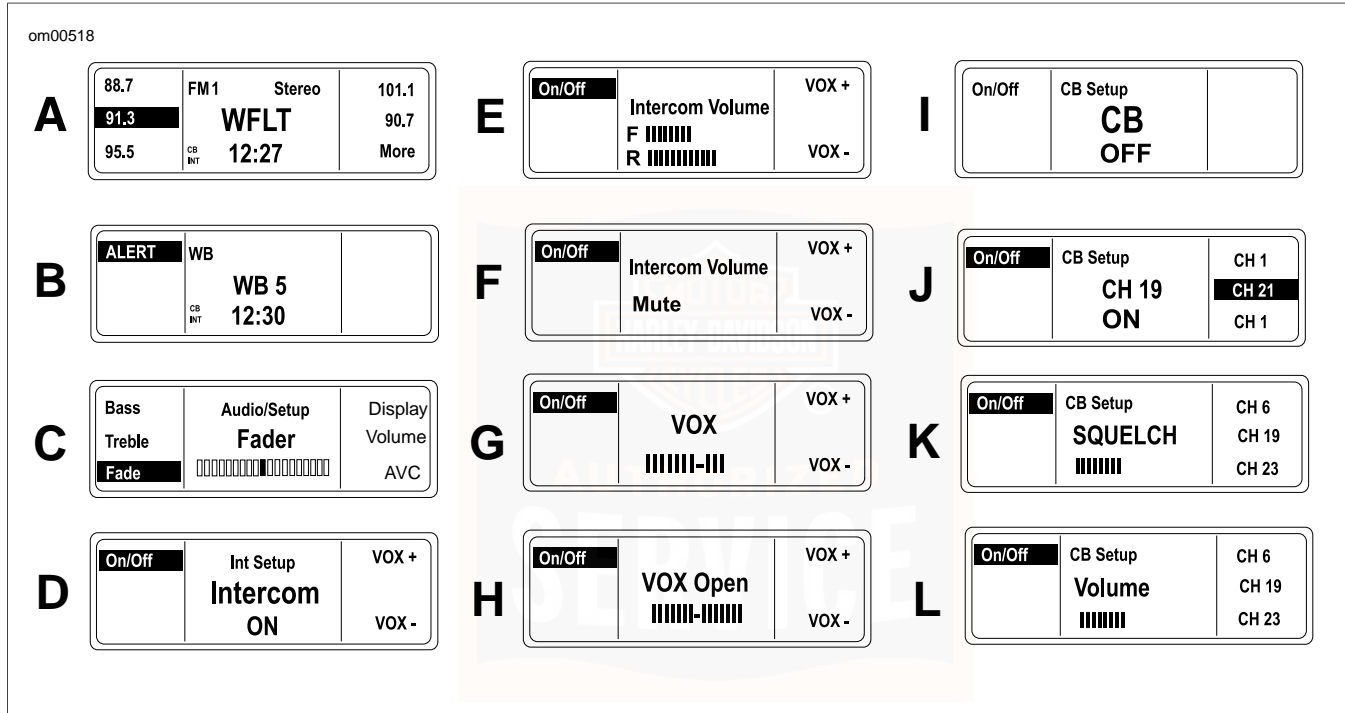

Figure 34. Display Examples
See E in Figure 34. When the rear headset volume is adjusted, a F (front) and R (rear) bar graph appear in the LCD display.
See D in Figure 34. To activate the intercom (INT) and the VOX microphones, press soft key **1** to turn the intercom ON.
See G in Figure 34. Press the **MODE SEL** switch **UP** or **DN** or press the **4** or **5** soft key to initiate the VOX display. The LCD displays VOX sensitivity as a bar graph with a smaller bar to indicate the center of the 14 bars. A higher number of bars indicates greater sensitivity while a lower number means less sensitivity.
See E in Figure 34. Enter Intercom Setup, speak into microphone and adjust the intercom volume with the **AUDIO** switch on the left hand grip. Press **AUDIO +** to raise the volume and **AUDIO -** to lower the volume. The LCD displays a dashed line that changes length with the level.
See F in Figure 34. When the headset volume has been adjusted to the bottom of its range, Mute will appear in the volume display.
See H and I in Figure 34. To activate the Citizen Band transceiver, press and release the **COM** pushbutton on the front panel. Press soft key **1** to turn the CB ON/OFF. The CB will activate in CB Setup with squelch threshold and channel settings from the previous use. CB channels are selected in CB Setup.
See J in Figure 34. With the CB on, press **COM** to enter CB Setup. The LCD displays CB SETUP in the upper half and the CB channel appears in the lower half.
See K in Figure 34. When squelch is interrupted, the CB in the display inverts. If the squelch is not interrupted and the another source is playing, CB is displayed.
See J in Figure 34. Up to 3 CB channels can be preset. Press and hold a soft key (4, 5, 6) to preset a CB channel.
See K in Figure 34. The CB signal is passed to the speakers or headsets only if signal strength exceeds the threshold set with the squelch control switch (**PTT/+SQ/-**). When CB signals exceed the threshold, they are said to "break squelch." Refer to Table 18.
Refer to Table 19. See L in Figure 34. To adjust volume of the CB in the speakers or headset, Press **AUDIO +** to raise the volume or **AUDIO -** to lower the volume. CB volume is adjustable when squelch is interrupted or when the display is in CB Setup.